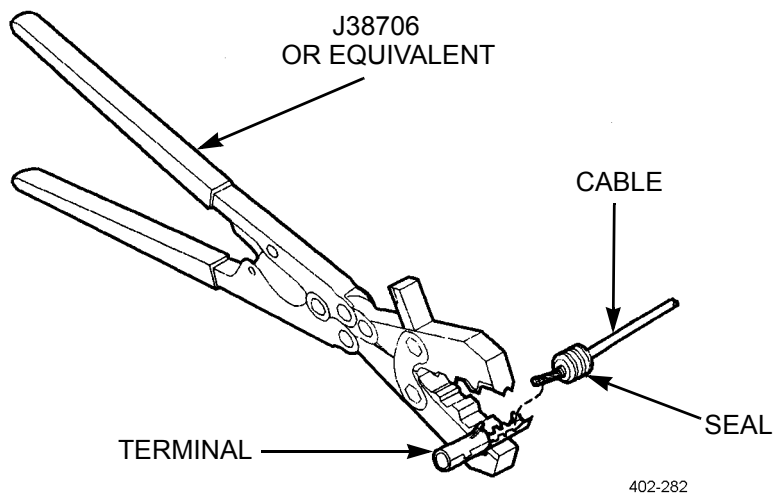

Figure 7. Terminal Position.
- (1) Insert terminal into locating hole of crimping tool using proper hole according to gage of cable to be used (Figure 7).